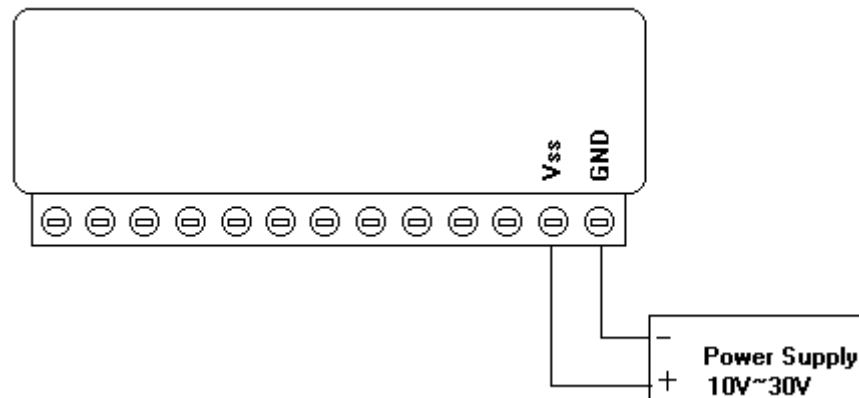

Figure 3-1 Power wiring
- ◆ Make sure to prepare all of the items above, then connect the power and network wiring as Figure 3-1 Power wiring.